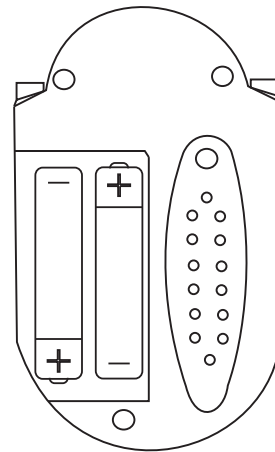

Figure 1
2. Insert two (2) "AAA" size batteries (Not Included) following the polarity marking inside battery compartment and Figure 1 below.